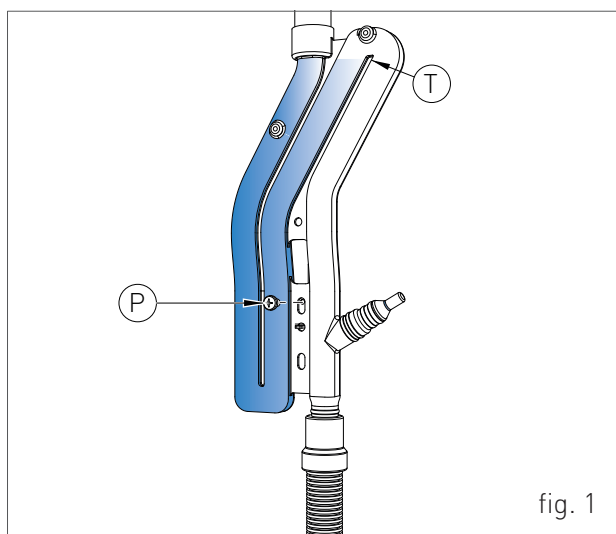

fig. 1
1. slightly loosen the cap of the jolly valve placed on the top of the condensing block to release the air from the top of the system (1-fig.1);
3. connect a rubber pipe to the draining tap placed on top of the condensing heat exchanger (2-fig.1);
- › Unscrew the screw “P” (fig. 1), extract the siphon and fill it with water up to the highest point “T” (fig. 1);